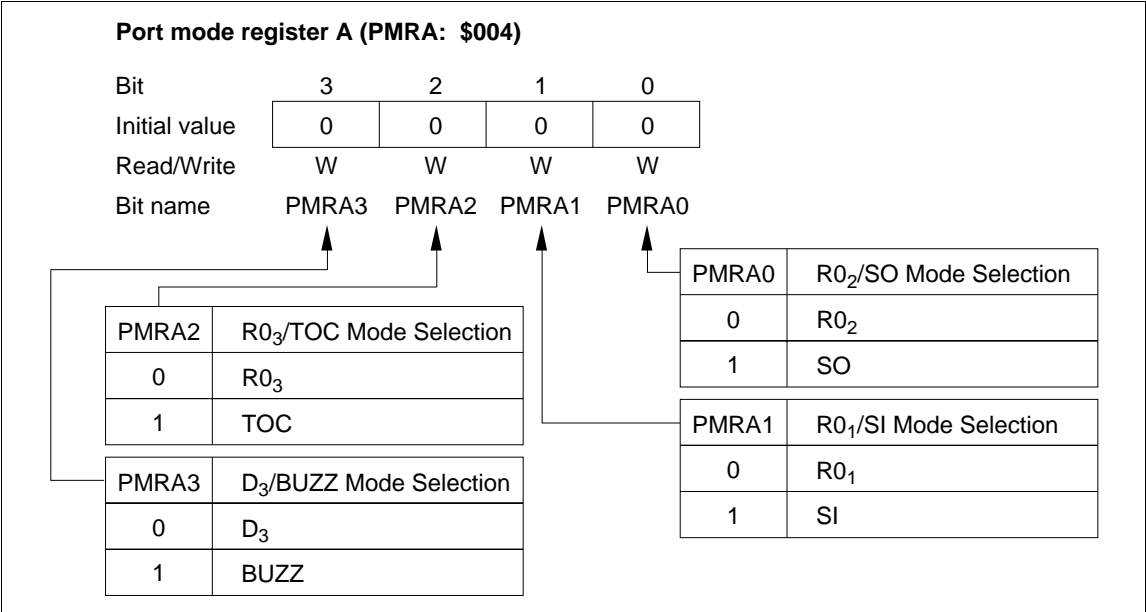

Figure 44 Port Mode Register A (PMRA)
- Port mode register A (PMRA: \$004): Write-only register that selects R0₃/TOC pin function as shown in figure 44. It is reset to \$0 by MCU reset.
Port Mode Register A (PMRA: \$004): Four-bit write-only register that selects D₃/BUZZ pin function as shown in figure 44. It is reset to \$0 by MCU reset.